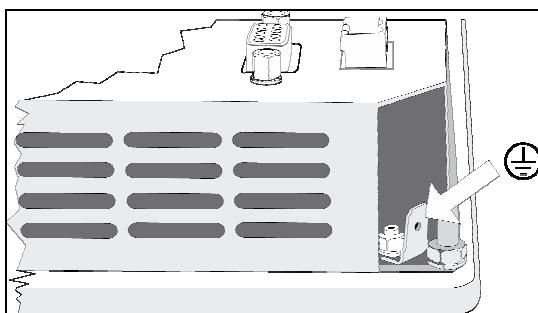

Fig. 13: PE
- Connect PE:** Connect the tab of the PE connection (see Fig. 13) to the protective earth. To do this use a line with a core cross-section of at least Cu 1.5 mm2.